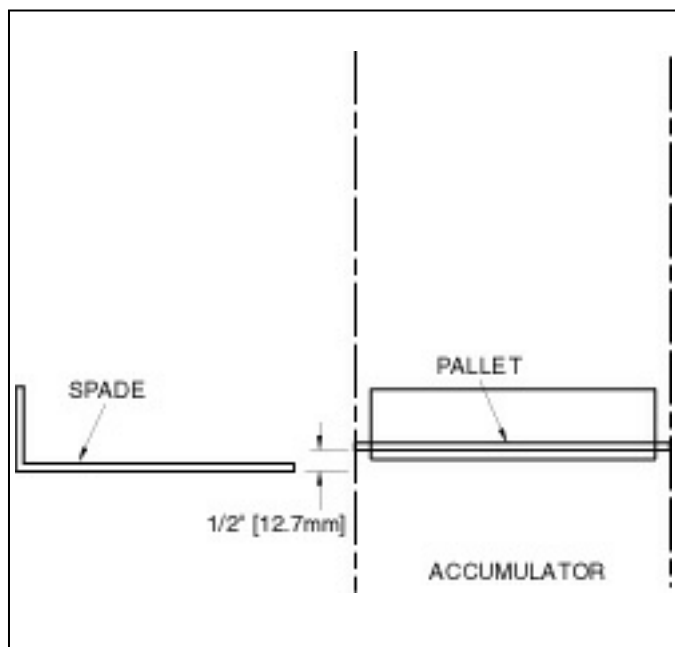

Figure 2.11 SWITCH LS-22 ADJUSTMENT.
2.1.7.4 Manually move the spade (see section 4.2) until it reaches the Accumulator but does not enter. Move spade up and down until the spade shelf is 1/2" [12.7mm] below the pallet as presented in figure 2.11. Then, move cam until switch LS-22 is actuated (screen will indicate that switch has been tripped).